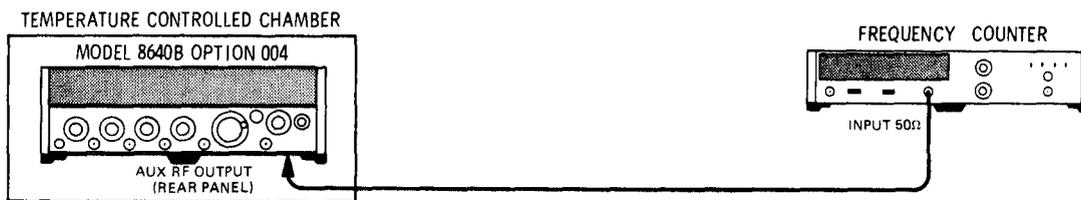

Figure 4-2. Frequency Stability vs Temperature Test Setup
1. Connect equipment as shown in Figure 4-2 after setting Signal Generator's controls as follows: